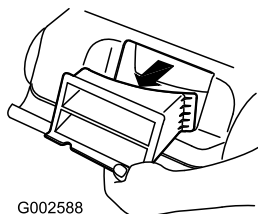

Figure 20
2. Remove the rear discharge plug (Figure 20).